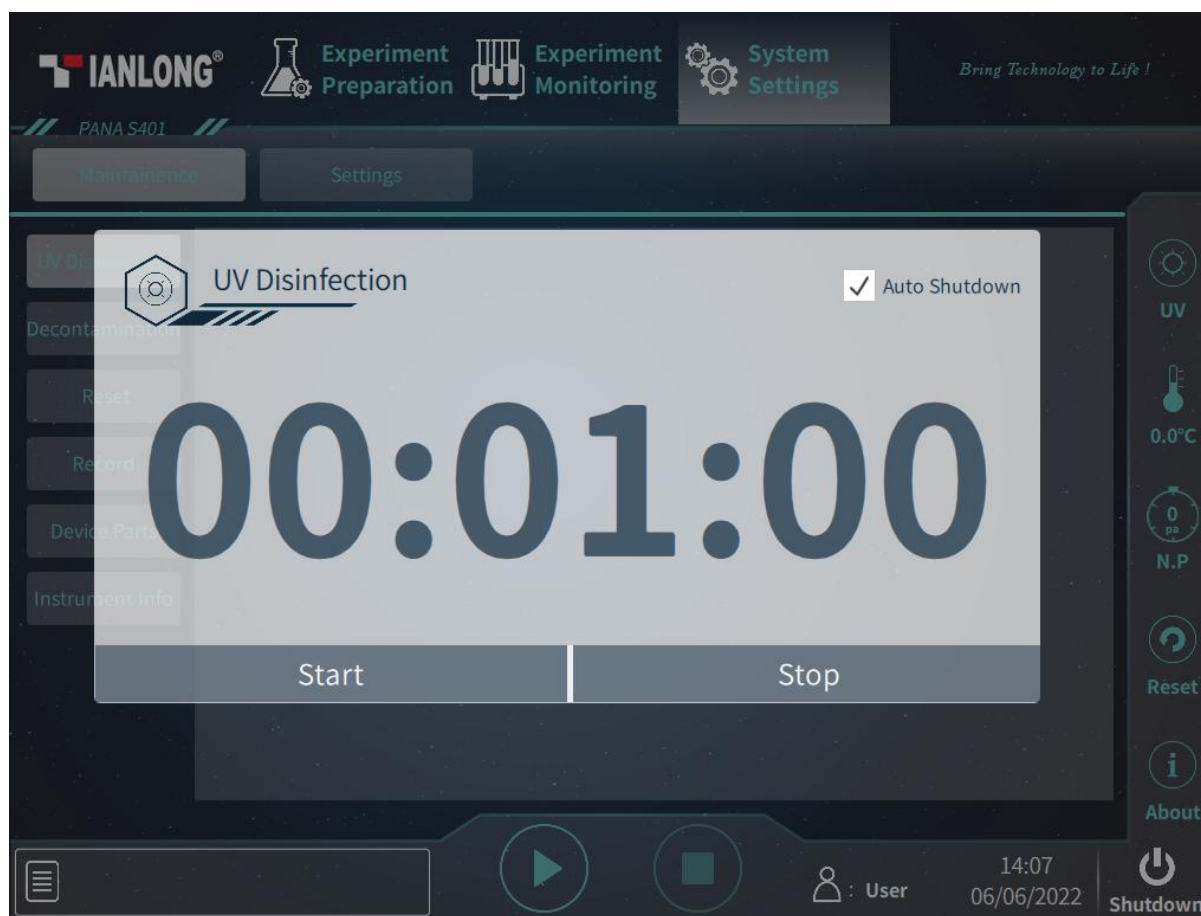

Figure 5-17. System Settings Interface – Maintenance Tab – UV Disinfection
- ▶ < **UV Disinfection** >: Click this function key, Handling System software will automatically pop up the UV disinfection window where user could click < **Start** > or < **Stop** > to start or stop the UV disinfection, as shown in figure 5-17.